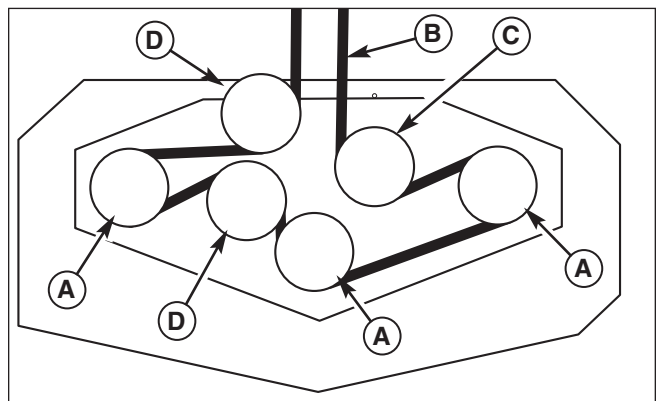

Figure 43. Mower PTO Belt Routing
4. Slide the drive belt over the edge of the stationary idler pulley (B). Carefully release the tension on the breaker bar.
5. Remove the old belt and replace with a new one. Make sure the V-side of the belt runs in the pulley grooves (Figure 43).